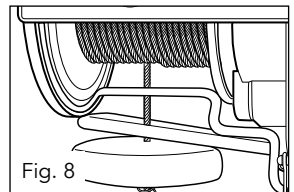

Fig. 8
1. Remove the adhesive tape from the drum (3) before using the hoist for the first time.
6. The motor (14) for the cable hoist is fitted with a thermostat switch. Whilst the cable hoist is operating, the motor (14) may therefore stop. It will restart automatically when it has cooled down.
9. Do not use the lever (4/5) (Fig. 8) as a routine stopping device. It should only be used to stop the machine in an emergency.